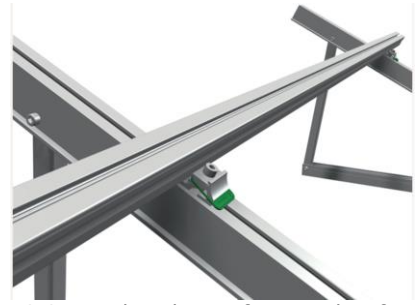

Fig 4.2.3A: Multi Adaptor fixing rail to fastener
- II. Position and fit the bottom (rectangular channel) of Proline rails on top of rail cross connectors, across each tripod frame, as shown in Fig 4.2.3A.